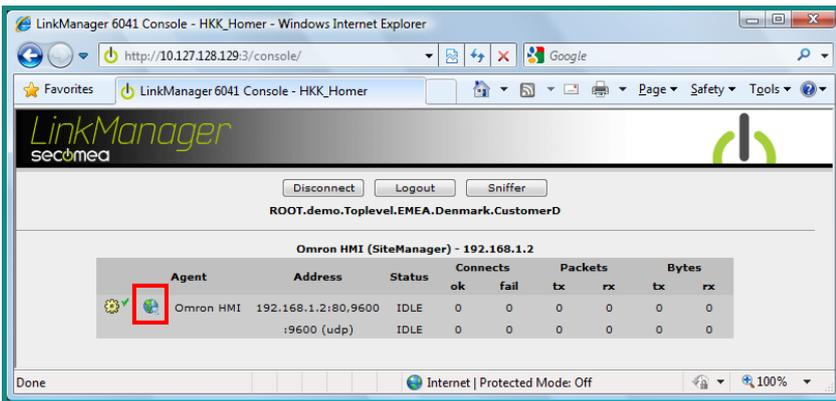

Figure 5 LinkManager Screen
3. Click on the < icon > shown in figure 5 to access the Omron HMI interface.